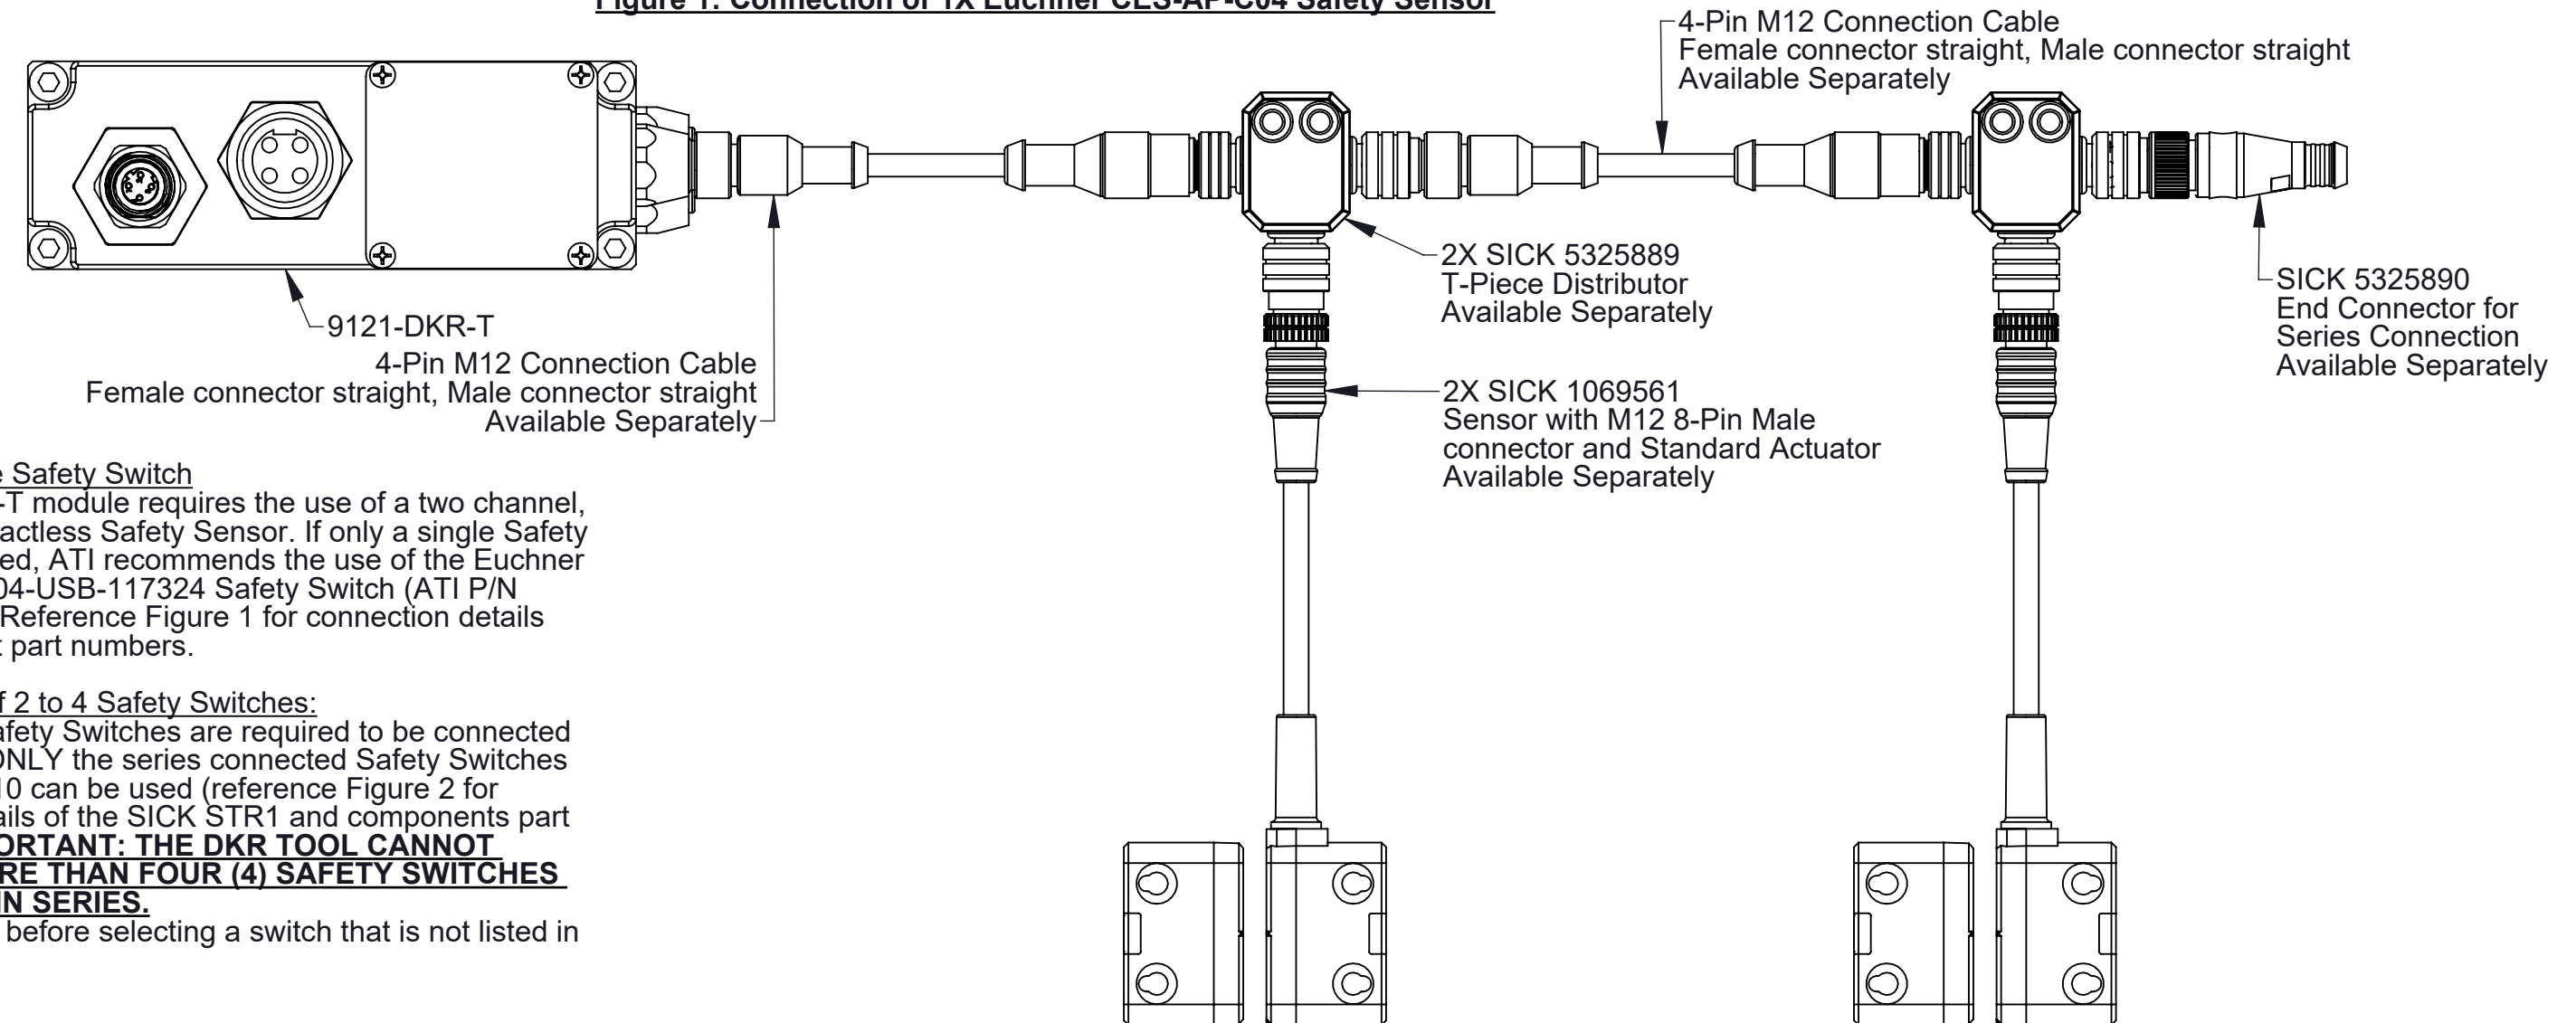

Figure 2: Connection of Two to Four SICK STR1 Safety Sensors in Series
2. If two to four Safety Switches are required to be connected in series then ONLY the series connected Safety Switches listed in Table 10 can be used (reference Figure 2 for connection details of the SICK STR1 and components part numbers). **IMPORTANT: THE DKR TOOL CANNOT SUPPORT MORE THAN FOUR (4) SAFETY SWITCHES CONNECTED IN SERIES.**